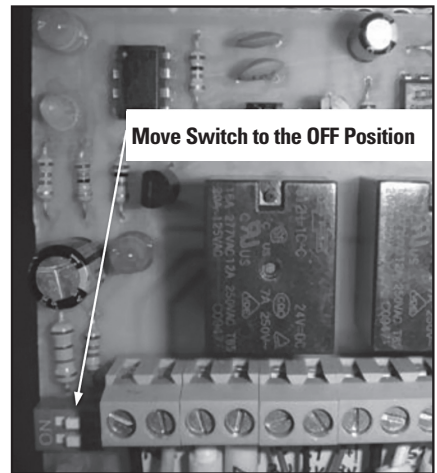

FIG.6
- Move the switches to the off position (see Fig. 6)